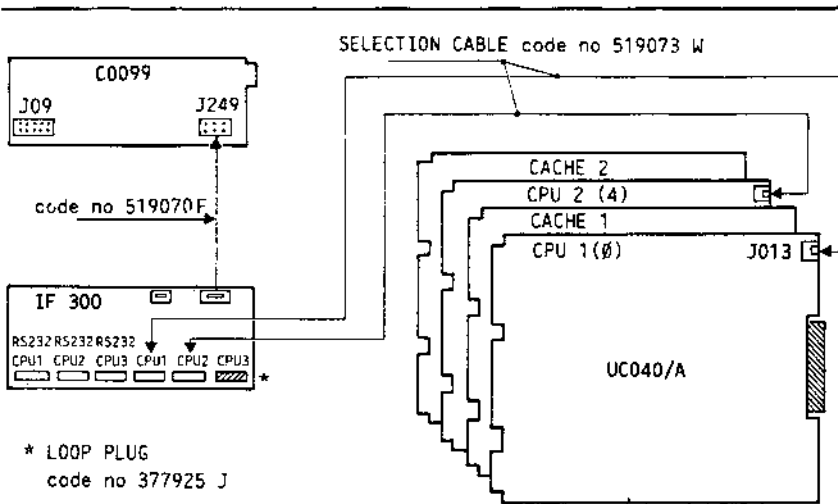

Fig. 2-9 Interconnection diagram for M60/2 without remote diagnostic
- Connect the cables as shown in figures 2-9 and 2-10.